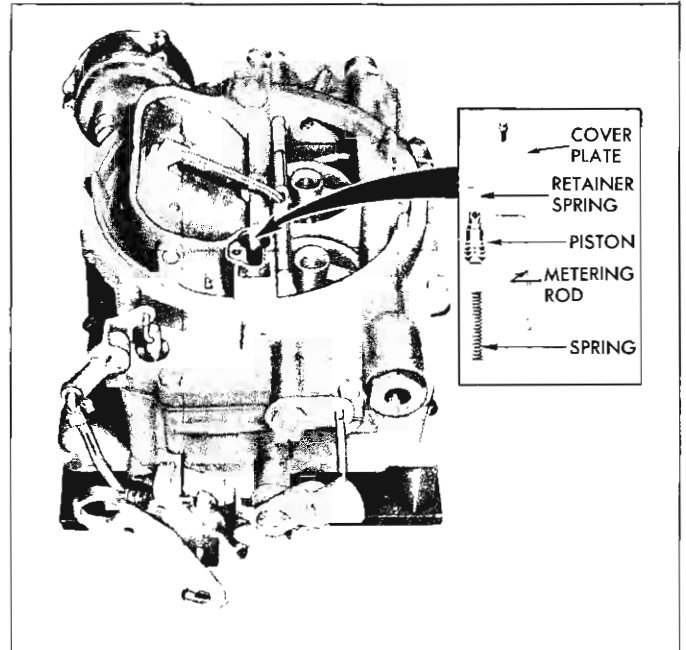

Fig. 12—Metering Rod Removal
3. Remove step-up piston cover plates, pistons and metering rods (fig. 12).
4. Remove screws holding two step-up position cover plates to air horn and remove cover, piston, step-up rod and spring (fig. 12).